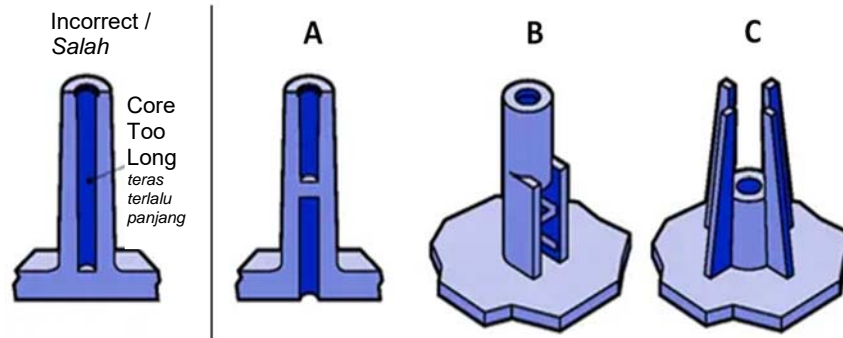

Figure 2: Long-core alternatives.
- (b). **Figure 2** shows the options to reduce excessively-long core pins for the boss system. Compare the **THREE (3)** design considerations and provide suitable explanations to support your comparison.